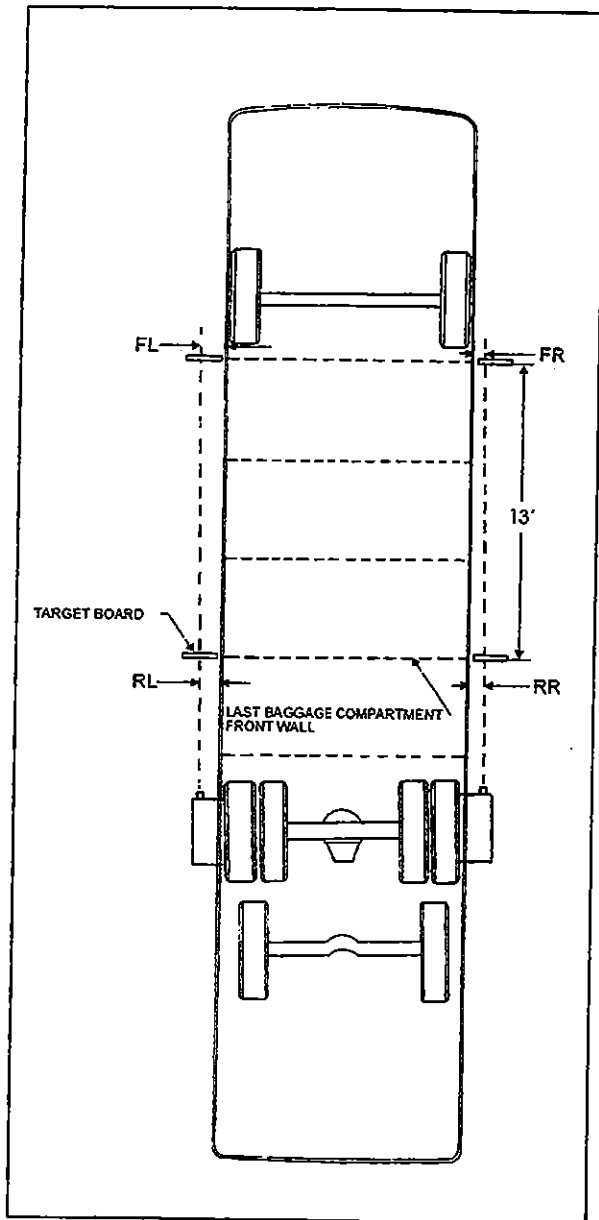

Figure 2: Drive Axle Alignment
4. Install a target board on each side of the vehicle, at the level of the last baggage compartment front wall (see installation in Fig. 2).
Record measurement, then repeat procedure on the other side (refer to Fig. 2). Dimensions obtained are identified RR on rear right-hand side and RL on rear left-hand side.
7. Move the target boards to the front of vehicle, i.e. at 13 feet towards the first target location (Fig. 2) for installation.